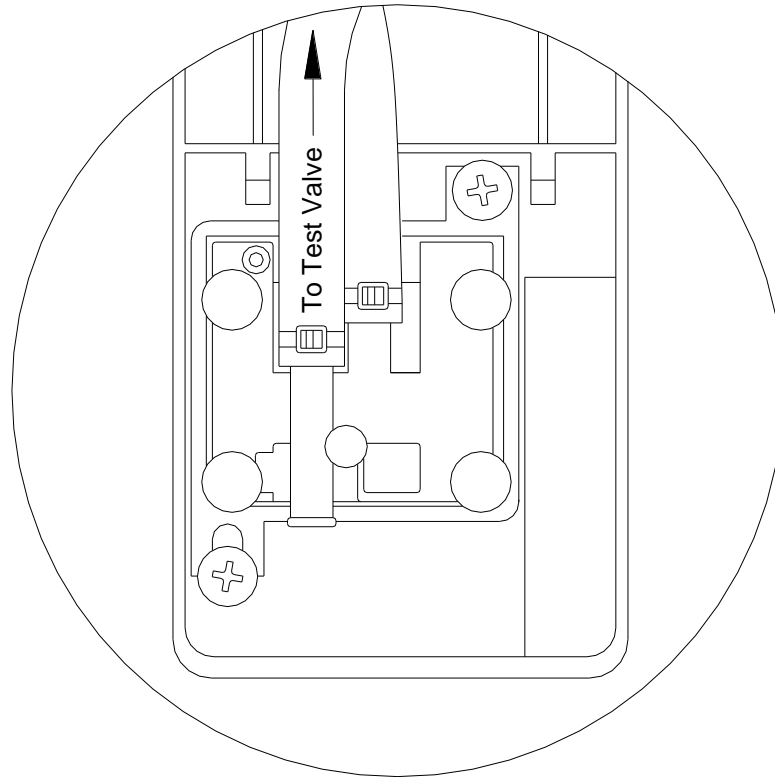
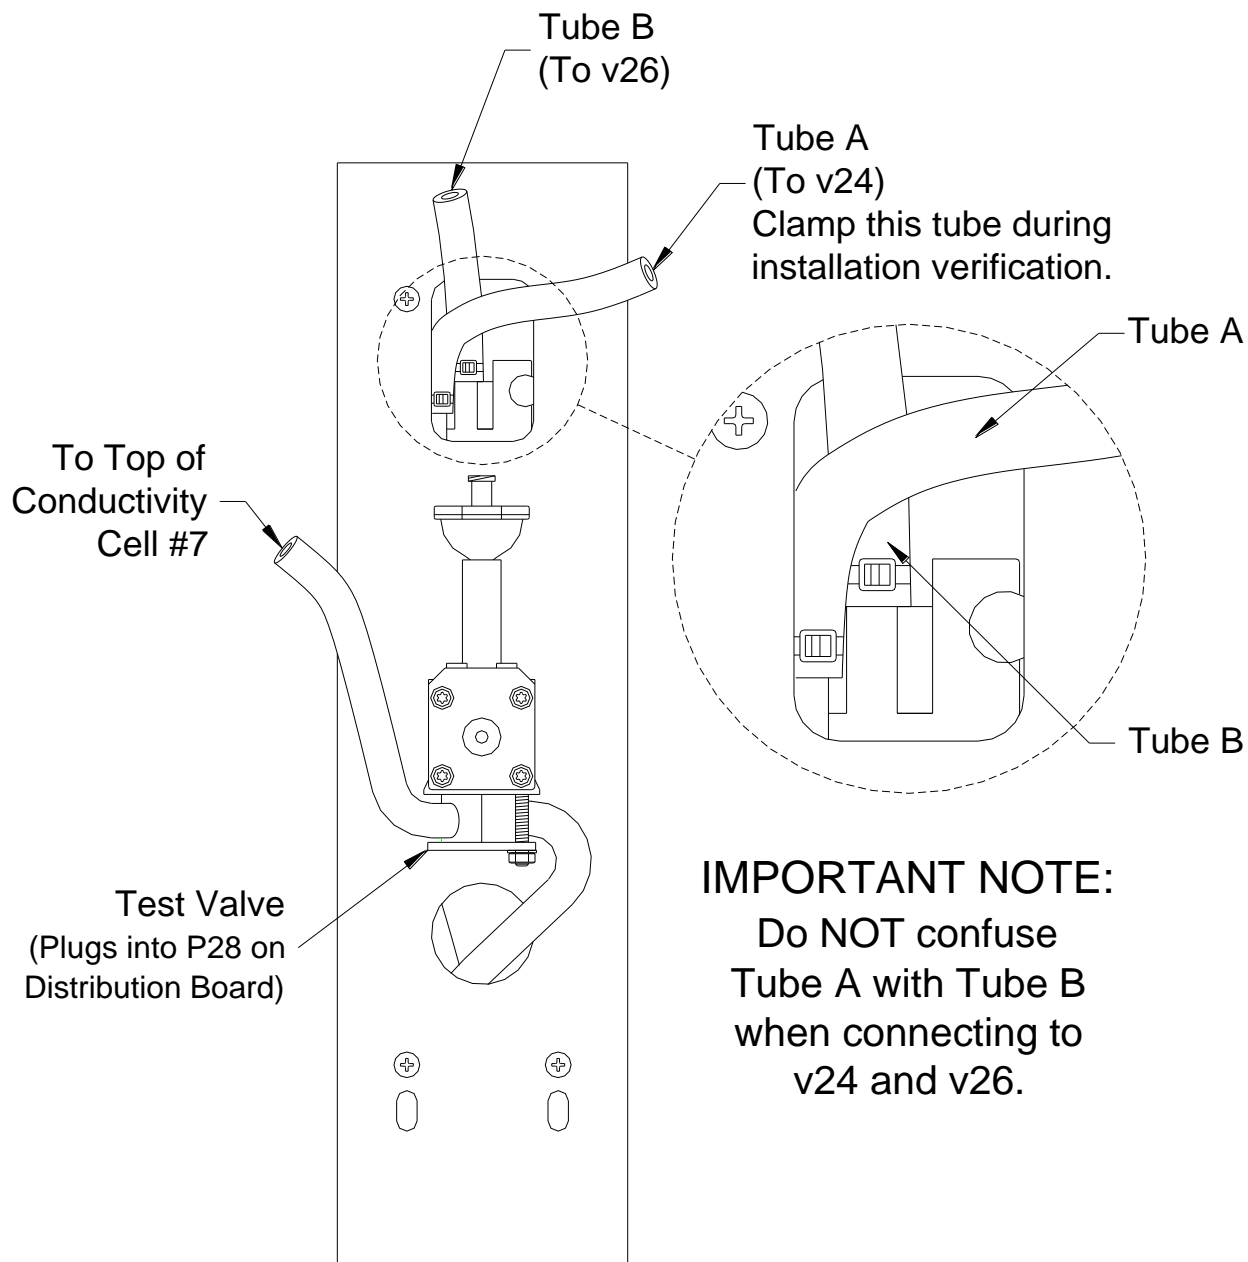

Figure 2
Figure 4
- 4 Remove the tubing connecting the DIASAFE® PLUS filter test valve to the lower tubing block inside the filter holder (see Figure 2). Note the tubing port location.
- 10 Connect the test valve tube to the lower tubing block inside the filter holder noted in step 4 (see Figure 2 on page 2).
- 12 Using the four (4) screws saved in step 3; attach the filter holder to the new rear panel. Take care not to pinch tubing.
- 13 Using the noted tubing connections in step 2, reconnect the three tubes to their proper locations. Refer to Figure 4 on page 5 for assistance in proper tubing connections.
- Clamp Tube A coming out of the DIASAFE® PLUS filter holder assembly. See Figure 4 on page 5 for proper tube location.